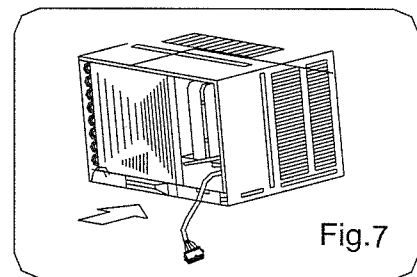

Fig.7
- Push the unit chassis into the cabinet (See Fig.7).